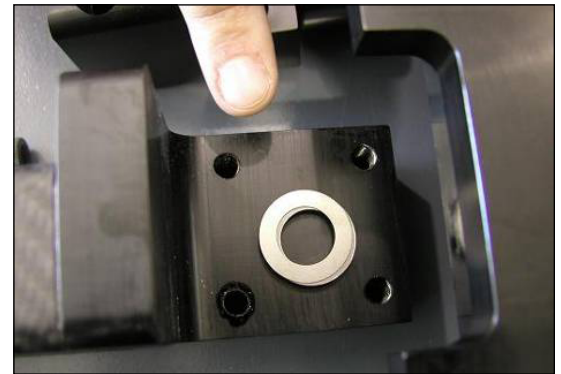

Fig. 10
- B. Remove the 4 screws and place as many shims as needed in the middle of the rear beam insert (Fig. 10).